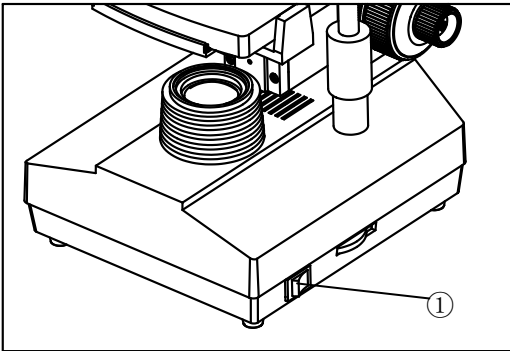

Fig.8
2.2.5 Connecting the power cord (Fig.8, 9, 10)
2.2.6 Replacing the Fuse (Fig.8, 9, 10)